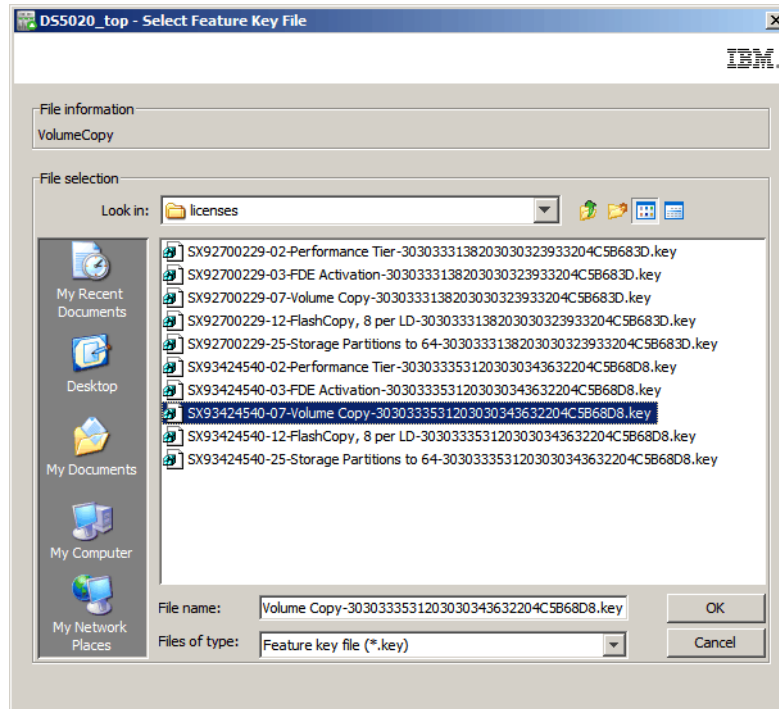

Figure 1-4 Selecting key file for Premium feature activation
2. Click on **Enable** and, as shown in Figure 1-4 on page 9, select the key file received by e-mail in previous section and then click OK.